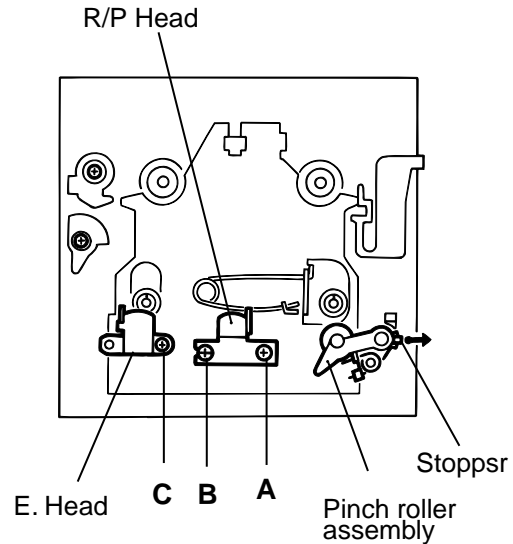
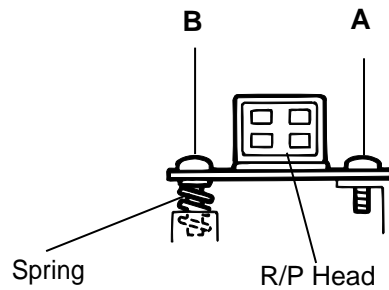

Fig.1
Fig.2
■ removing the feed motor (ee Fig.1)
1. Remove the screw **A** on the right side of the R/P head.(Fig.1, Fig.2)
2. Remove the screw **B** on the left side of the R/P head.(Fig.1, Fig.2)
Remove the screw **C** fixing the erase head.(Fig.1)